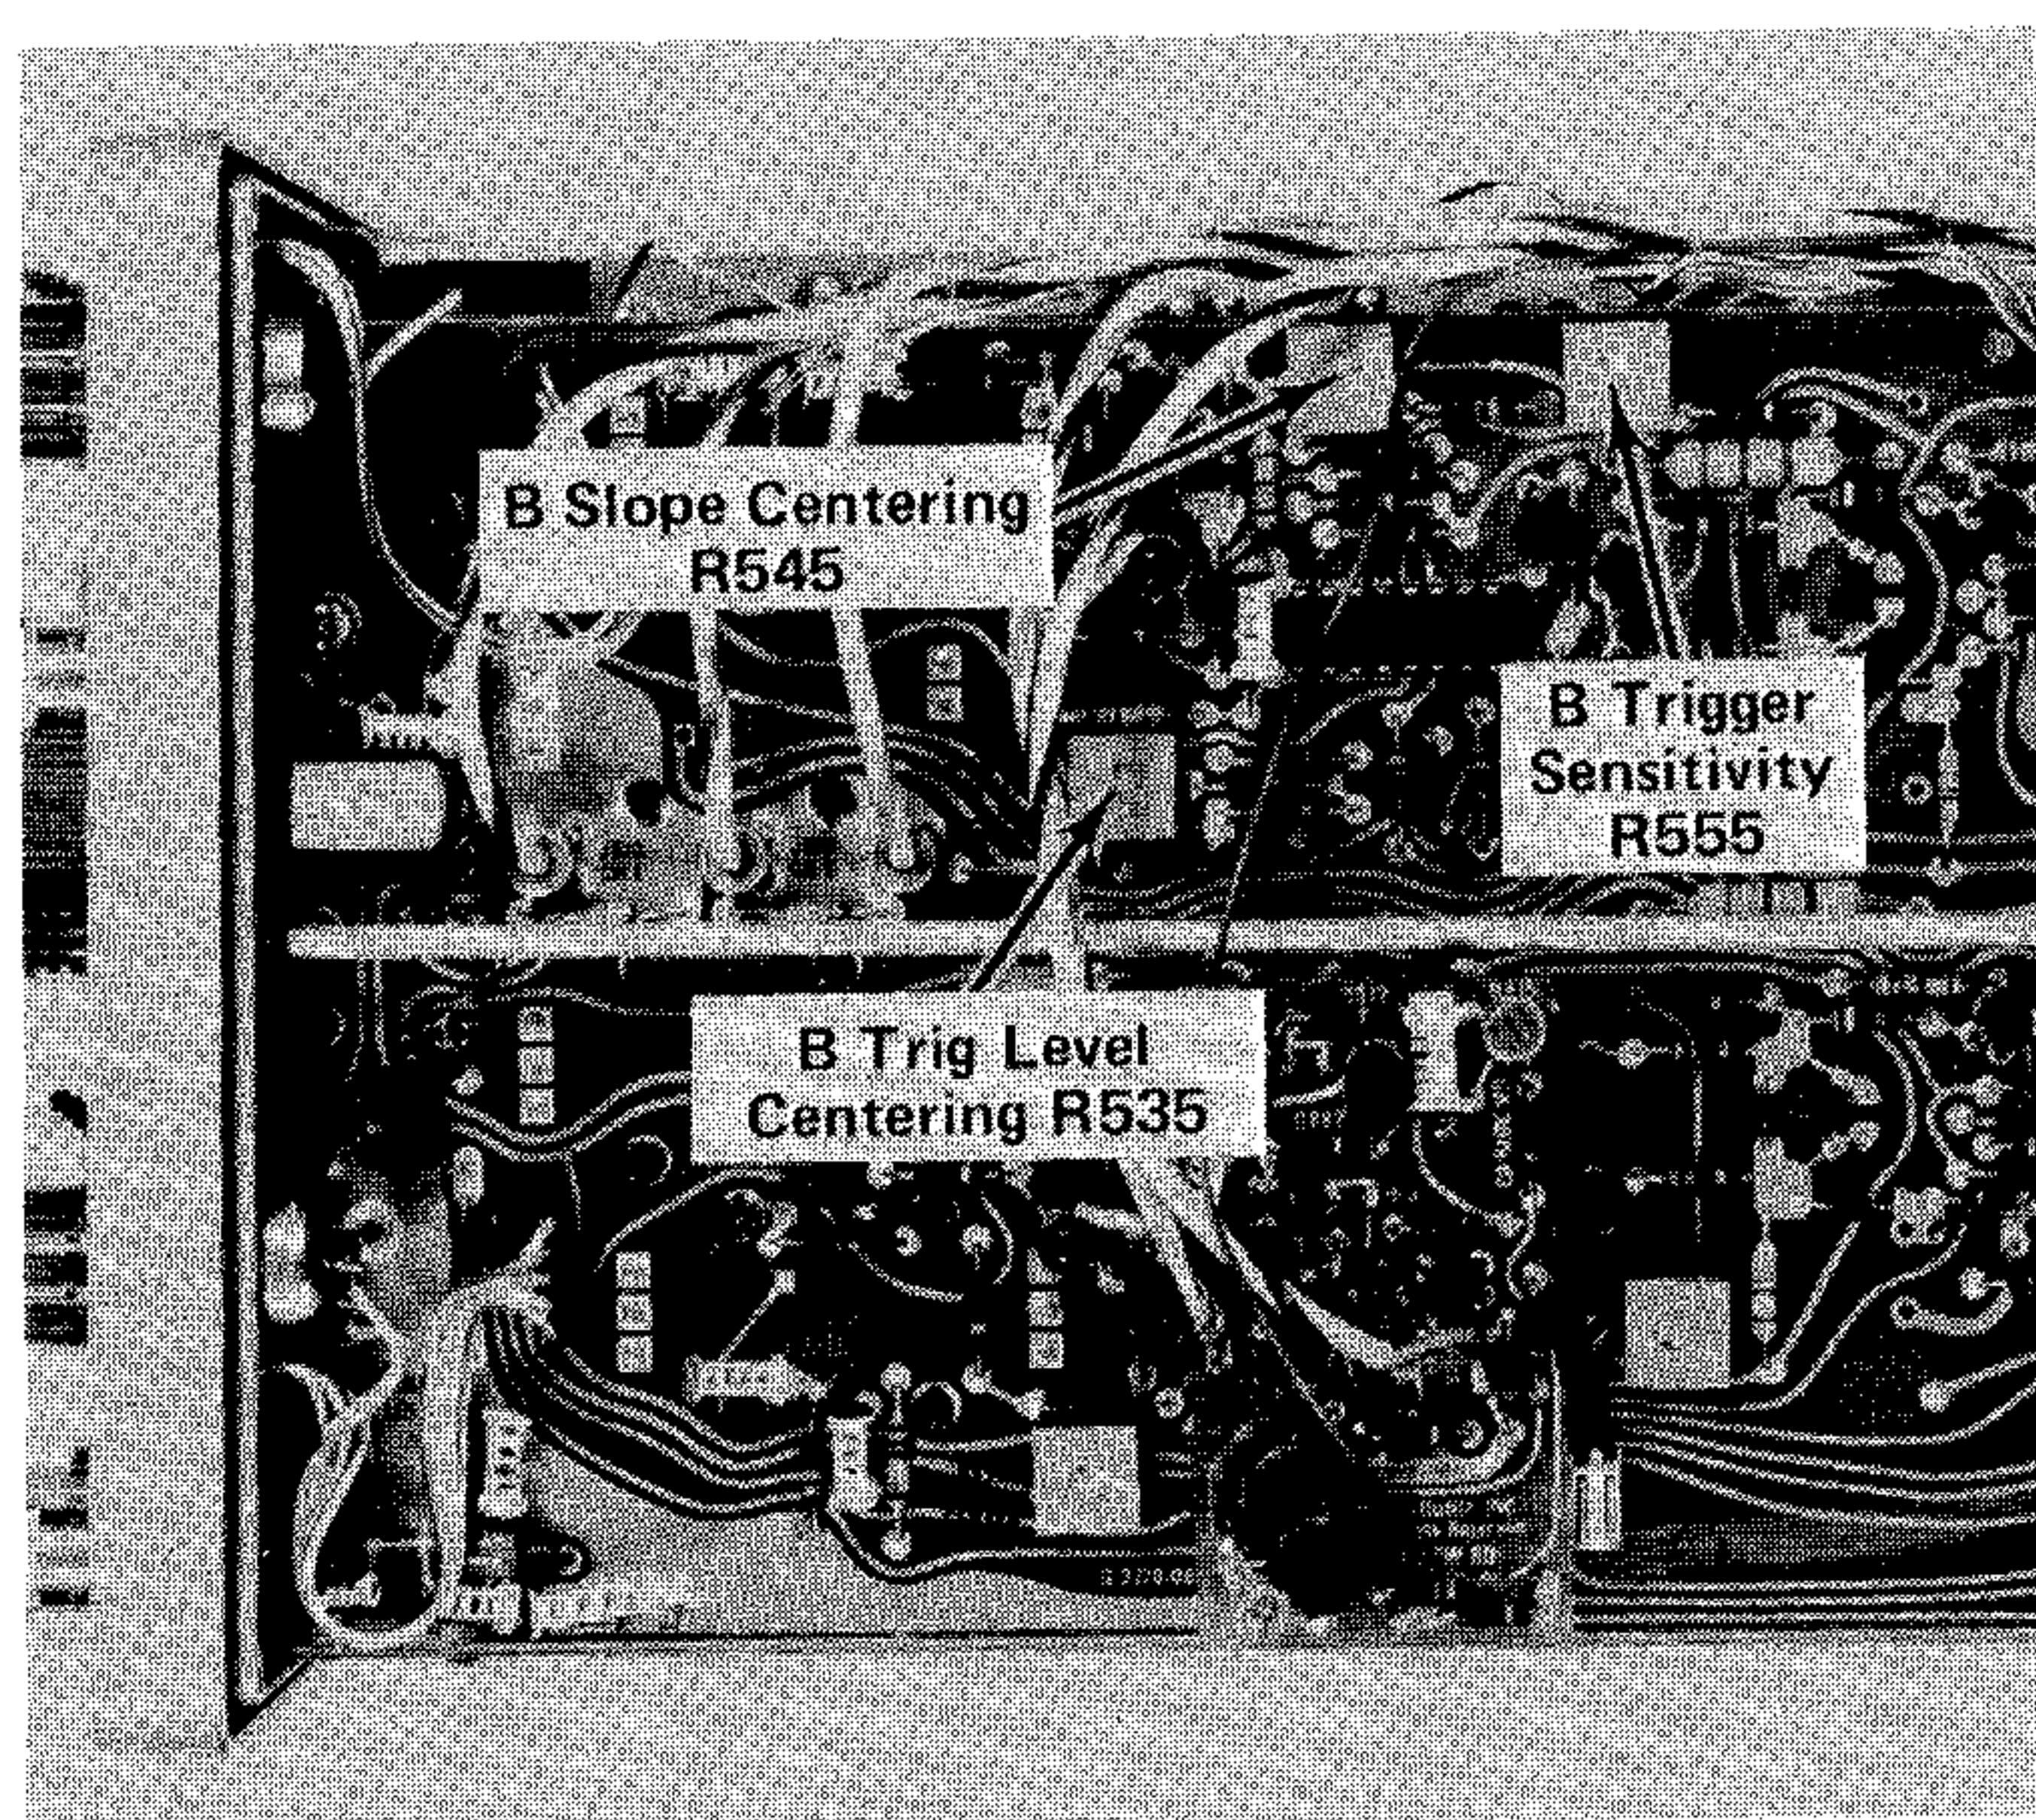

Fig. 5-25. Location of B Trigger Sensitivity, Slope Center, and Level Center adjustments.
e. ADJUST—B Trigger Sensitivity adjustment, R555, (see Fig. 5-25) so that a stable display can just be obtained by rotating the B LEVEL control.
e. ADJUST—B Trigger Level Centering adjustment, R535, (see Fig. 5-25) for the trigger point of the display to be at the graticule center, and adjust the B Trigger Slope Centering adjustment, R545, (see Fig. 5-25) so that the trace begins at the graticule center in both the + and — slope.